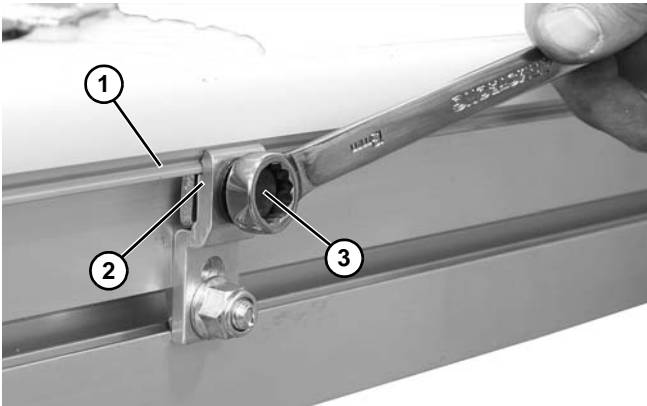

Figure 79
- Attach guiding (**Figure 79, item 1**) to clip (**Figure 79, item 2**) and tighten screw (**Figure 79, item 3**).